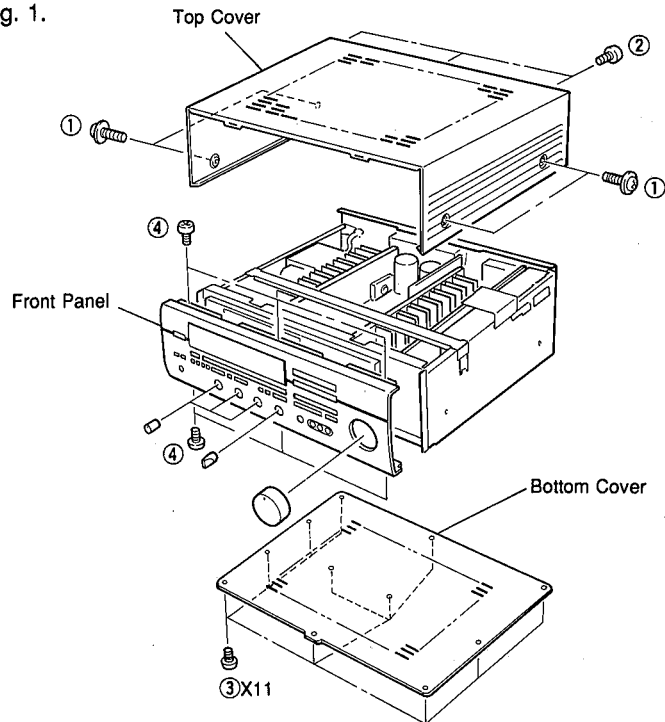

Fig. 1
- ⑤ P. C. B. FUNCTION (1)
- ⑥ P. C. B. TUNER
- ⑦ P. C. B. DSP (3)
- ⑧ P. C. B. MAIN (4)
- ⑨ P. C. B. MAIN (1)
- ⑩ P. C. B. MAIN (3)
- ⑪ P. C. B. DSP (1)
- ⑫ P. C. B. DSP (2)
- a. Remove 4 screws (①) and 3 screws (②) in Fig. 1.
- a. Remove 11 screws (③) in Fig. 1.
b. Remove 6 screws (④) in Fig. 1.